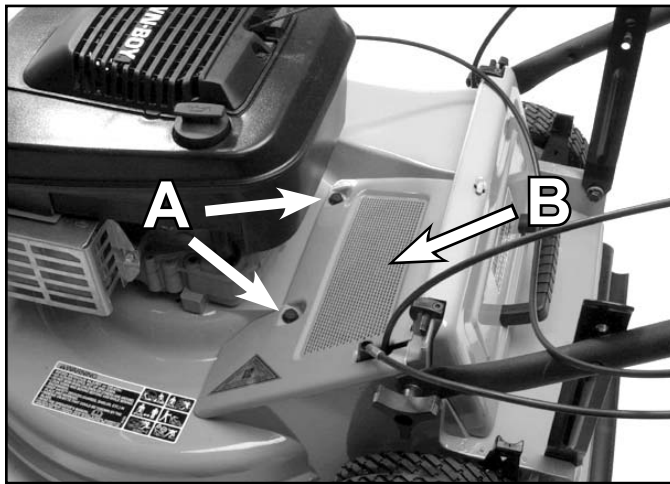

Fig 178
1. Remove the two flanged head self-tapping screws securing the screen panel to the housing and remove the screen panel as shown in Figure 178.